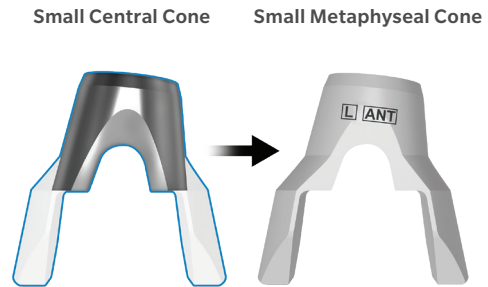

Figure 2
**Note:** The size, shape and position of the proximal portion of the femoral metaphyseal cone provisional is identical to that of the femoral central cone provisional, therefore this portion of the cone can be prepared using the femoral central cone instrumentation (Figure 2). For example, if you preliminary sized for a small Metaphyseal cone, prepare the diaphyseal portion of cone with the same sized central cone broach.